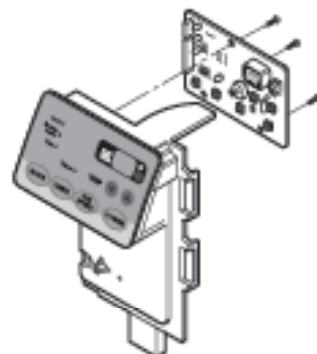

Figure 14
4. Remove the thermistor. (See Fig. 14)